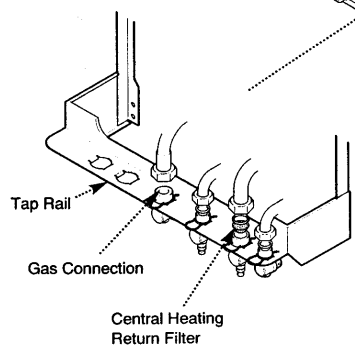

Fig. 25
1. Remove the tape from the tap rail on the support bracket and fit the central heating return filter (Fig. 25).